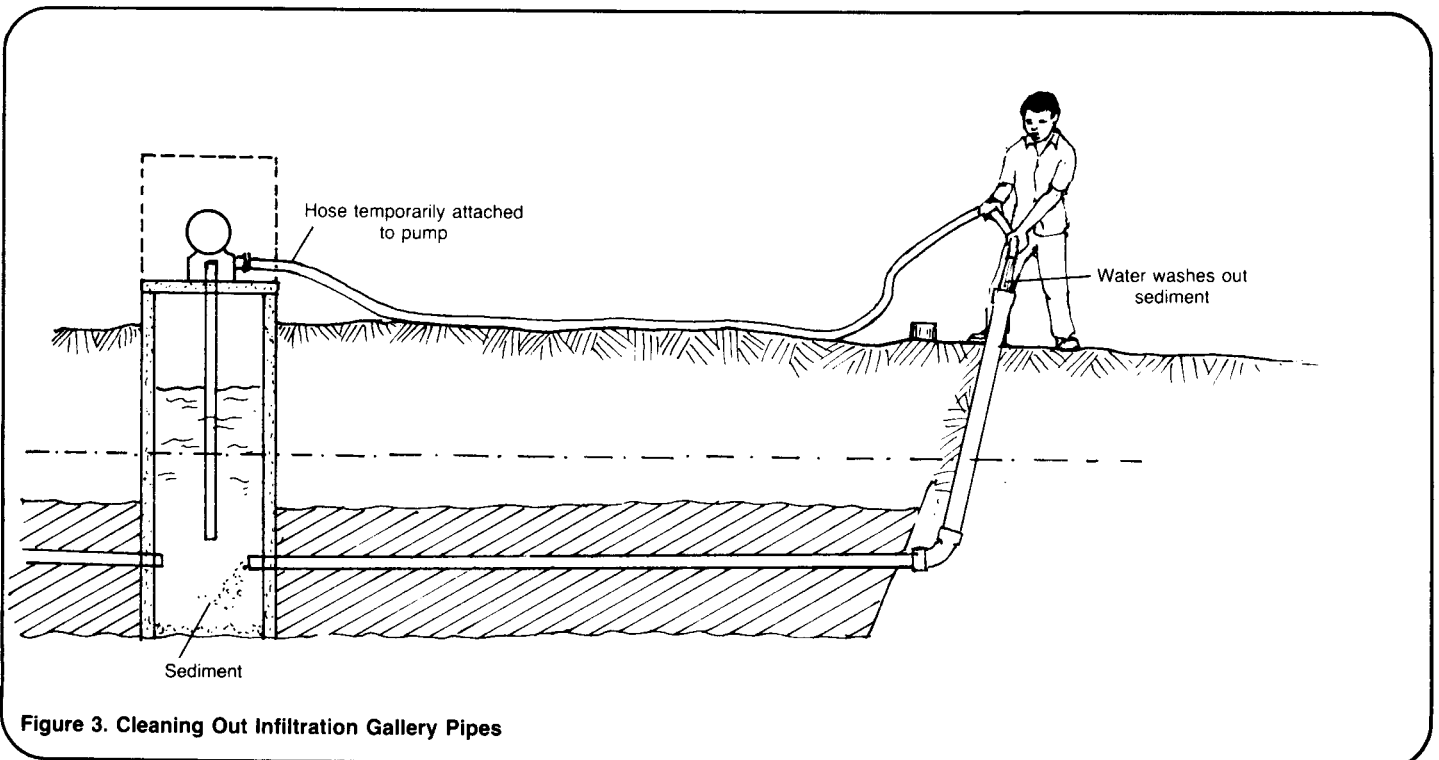

Figure 3. Cleaning Out Infiltration Gallery Pipes
2. Remove the obstruction from the pipe. The simplest way to unclog the pipes is to pour water into the cleanout system. Uncap the installed cleanout pipe and pour water into the system to break up any sediment. If a hose and water pressure are available, they should be used to thoroughly flush out the collection system. See Figure 3.